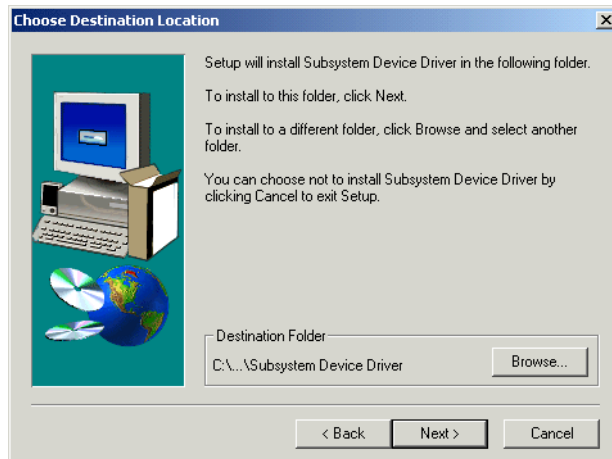

Figure 9-11 SDD installation - Choose Destination Location
6. Choose Destination Location panel (shown in Figure 9-11) is displayed. Now you are able to select desired destination location; however, the default location is a good and reasonable choice: